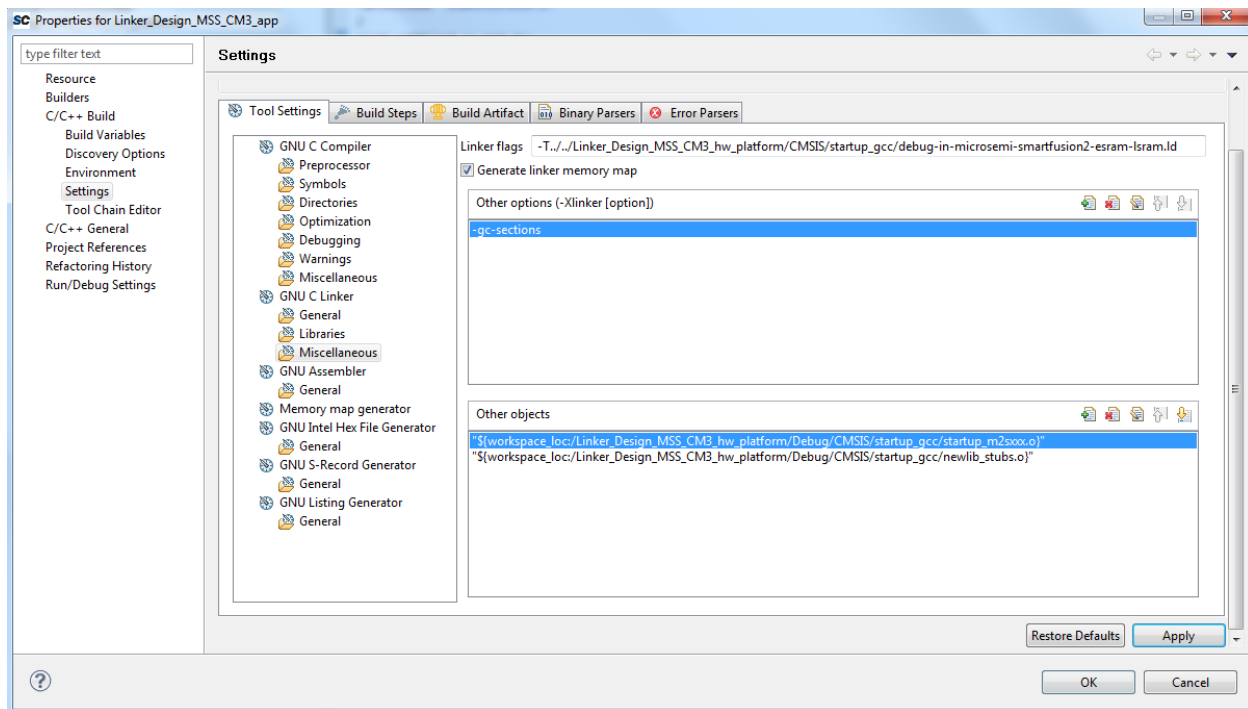

Figure 18 • Selecting Linker Script eSRAM-LSRAM for Implementation 2
- To run implementation 2, which includes loading the subroutine into eSRAM and all other codes into the LSRAM, the eSRAM-LSRAM linker script needs to be selected as shown in Figure 18.